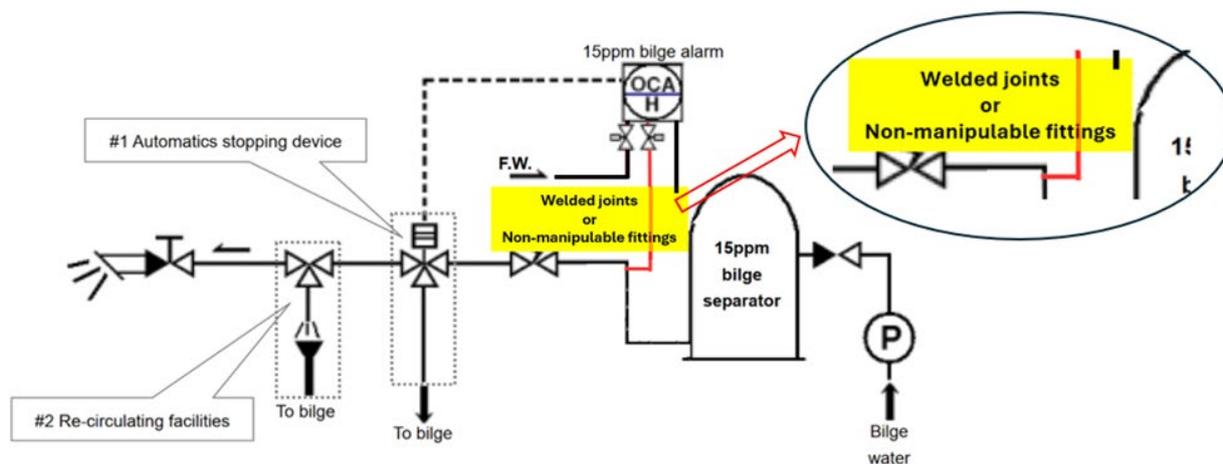

Figure 3 Arrangement where no Valve X and/or no union joint is fitted on the sample line to the 15ppm bilge alarm
(Refer to Figure 3)
③ The sample water line is fully welded, or if fittings/joints that cannot be operated or removed are used. (Refer to Figure 3)
• Also, should either ② or ③ be selected instead of applying ①, please consult the manufacturer in advance to confirm applicability and obtain any necessary advice.